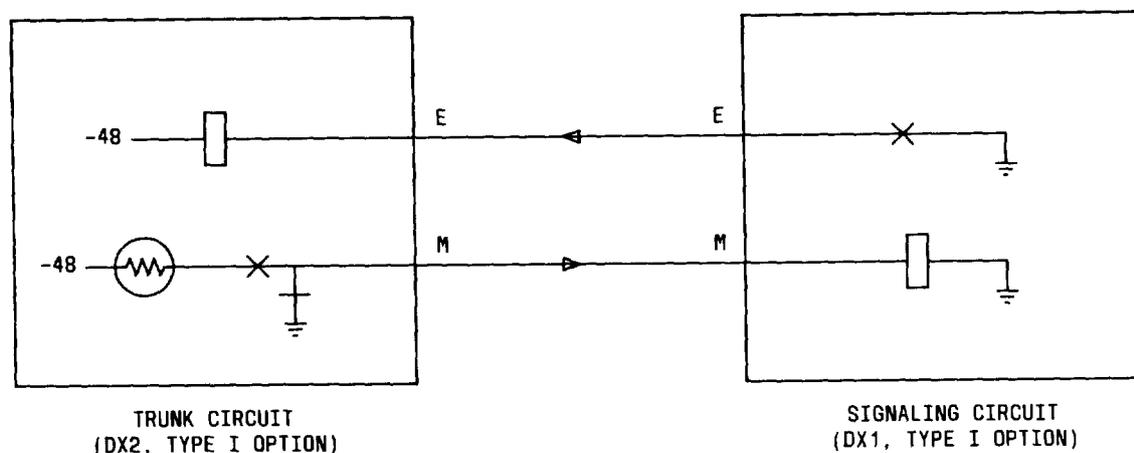

Fig. 3—Type I E&M Interface
2.05 DX Circuit and Detector: The HA satisfies the signaling requirements of the three types of E&M interfaces. The three types of E&M interfaces are shown in Fig. 3, 4, and 5. The HA employs a resistor duplex bridge with a voltage comparator to detect incoming pulses. It is capable of interfacing
with E&M trunk circuits (DX1 function), utilizing interface type I, II, or III. It also interfaces with E&M signaling circuits (DX2 function), utilizing interface type I or II. The E&M interface circuitry is designated such that the operation of the DX1/DX2 switch and the E&M type switch configures the E&M interface circuitry of this CFU to match the desired circuit shown in Fig. 3, 4, or 5.
2.13 DX1/DX2: The DX1/DX2 switch is a slide switch which slides horizontally to select either the DX1 or DX2 signaling mode. This switch is used in conjunction with the E&M switch to configure the signaling circuits shown in Fig. 3, 4, and 5.